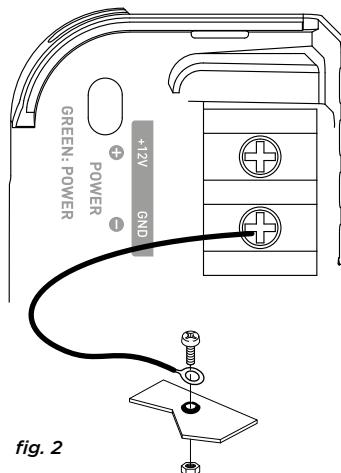

fig. 2
- 10 - Prepare the chassis ground by scraping off any trace of paint on the metal surface in order to ensure proper grounding. The grounding connections should also be as short as possible and **ALWAYS** connected to metal welded to the body or the chassis of the vehicle (*fig. 2*). The ground point which is generally chosen is the one connecting the negative terminal of the battery to the chassis of the vehicle.
3.3.2 - Get hold of the negative power cable (-). This cable should be as short as possible and ideally should not be any longer than 1 metre, to ensure a perfect connection between the amplifier and the chassis of the vehicle. The cable and wire gauge must comply with the table in section 3.1. Find a suitable grounding point, then sand it to remove any traces of paint or other coating to maximising the quality of the contact point. Drill a hole in the metal that you have previously sanded, making a hole the same diameter as the screw you are using, making sure that there are no fuel lines, cables or any other sensitive vehicle devices nearby. Crimp the black Y-type spade terminal supplied to the end of the cable. Screw the black Y-type spade terminal firmly to the GND terminal on your FDS amplifier (*fig. 2*). Tin the other end of the cable and then crimp or solder it onto the intended spade terminal. Insert the screw through the spade terminal, then put the screw and the nut in place and screw tight. (*fig. 2*)